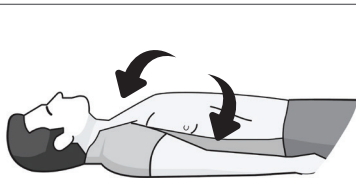

FIGURE 8: Expose chest for defibrillation
- Remove clothing and jewellery and expose the patient's chest (Figure 8, page 36). Cut through clothing with scissors if necessary.